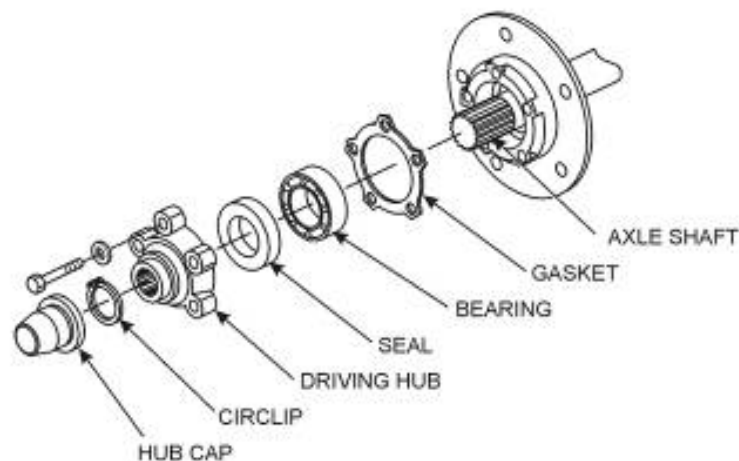

Figure 82 Axle Shaft and Flange Exploded View
- e. Remove the five bolts and spring washers securing the driving hub to the hub (Figure 82). Discard the spring washers.
- i. Remove the circlip retaining the axle shaft (Figure 82).
- j. Remove the five bolts and spring washers securing the driving flange and remove the flange (Figure 82). Discard the spring washers.